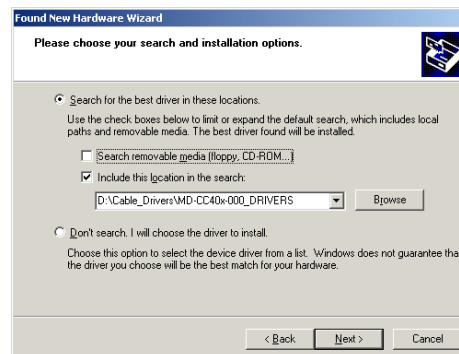

Figure D.9: Hardware Update Wizard Screen 3
- (c) Click Next (Figure D.9).